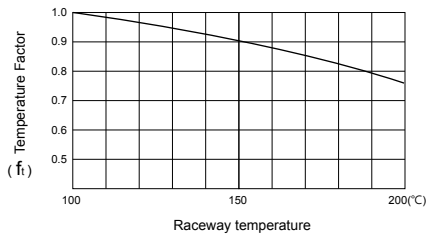

Fig 1.3.3 Temperature Factor (ft)
(Fig1.3.3)
- ft : temperature factor (Fig 1.3.3)